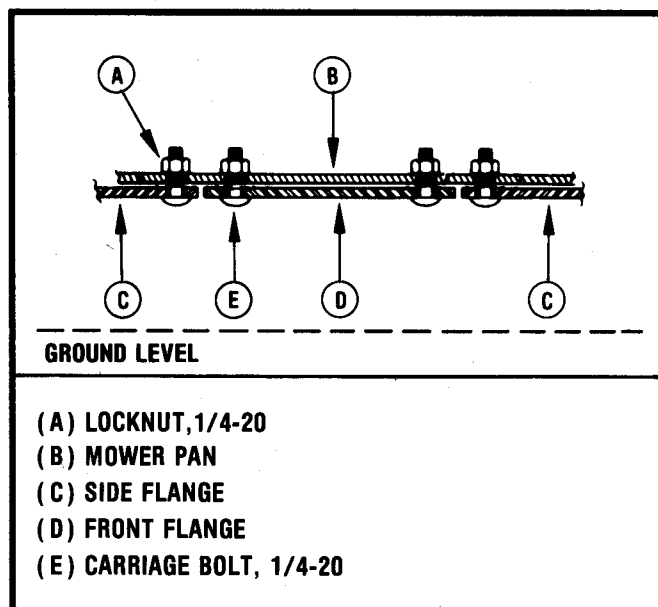

FIGURE 11-5
2. Assemble the front flange to mower pan between the two side flanges. See Figure 11-5.